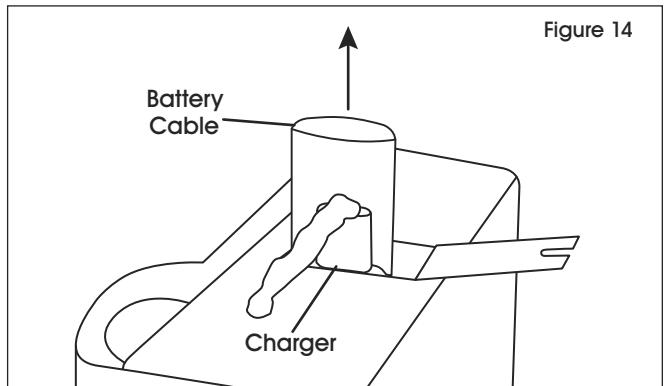

Figure 14
7. Remove red battery cable from charger. (See Figure 14)